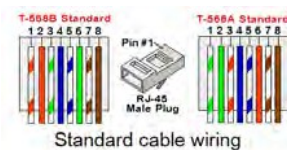

Figure 26: Standard cable wiring
- c. Insert the eight wires into an RJ45 connector (see Figure 26).
8. For the switch/router side, use a pre-crimped cable or use a crimper to prepare an RJ45 communication connector: Insert the eight wires into the RJ45 connector in the same order as above (see Figure 26).